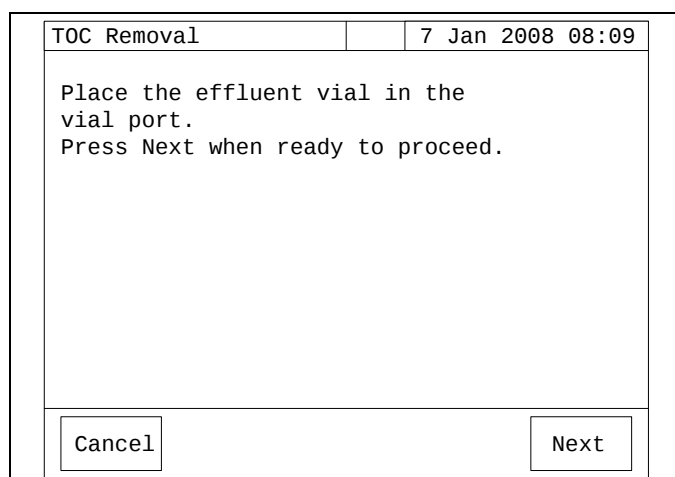

Figure 8: Starting the TOC Removal Analysis
4. You will be prompted to put the vial containing the effluent into the vial port or IOS System. Press **Next** to continue. (See Figure 8.)